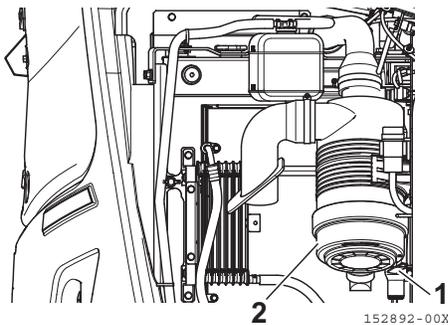

Fig. 8-45
2. Pull down the lever (Fig. 8-45, 1) to remove the dust cup (Fig. 8-45, 2).
4. Clean the dust cup (Fig. 8-45, 2) and the inside of the body.
9. Install the dust cup (Fig. 8-45, 2) so that the arrow mark will come on the front side and turn it clockwise. Push the lever (Fig. 8-45, 1) of the dust cup (Fig. 8-45, 2) to fix.